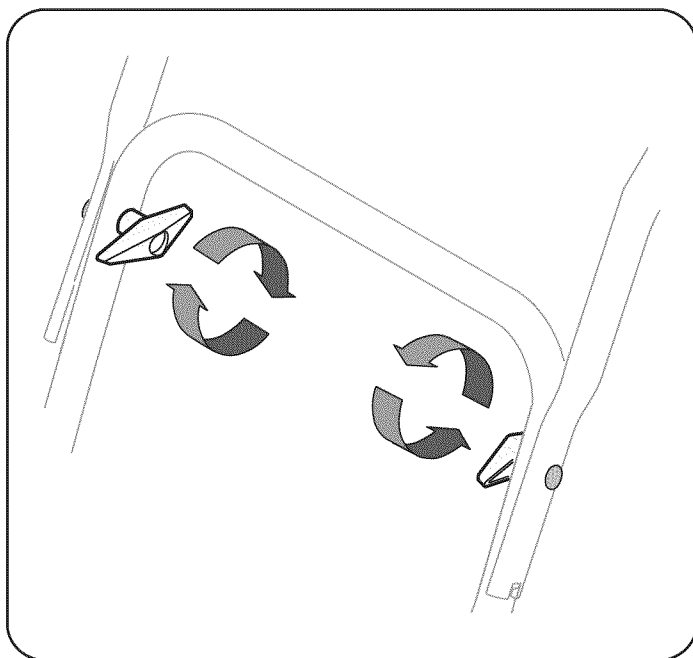

Figure 3
4. Secure the handle by tightening the plastic wing knob located on both the left and right sides of the handle. See Figure 3. Remove and discard any rubber bands, if present. They are for packaging purposes only.